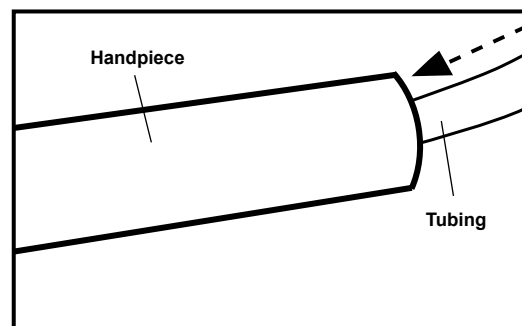

Figure 14
- Insert the autoclavable crystal-free tip handpiece onto the tubing (fig. 14).